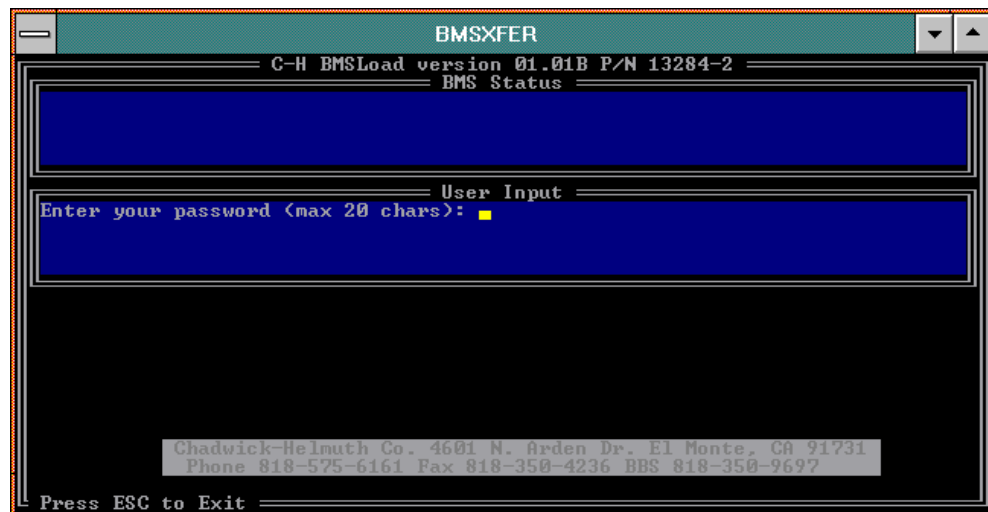

Figure 67. Upload Status Screen (User Password)
7. You will then be prompted to enter you password. Enter your password and press ENTER (refer to Figure 67).